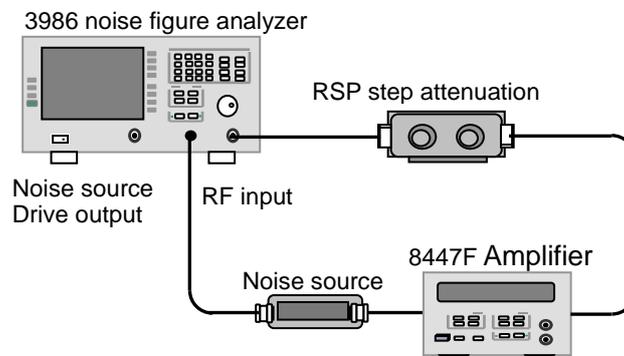

Figure 8.6 Test Block Diagram of Gain Measurement Range and Measurement Uncertainty
**Step 1.** Connect the test system as shown in Figure 8.6 and warm it up for 30min.